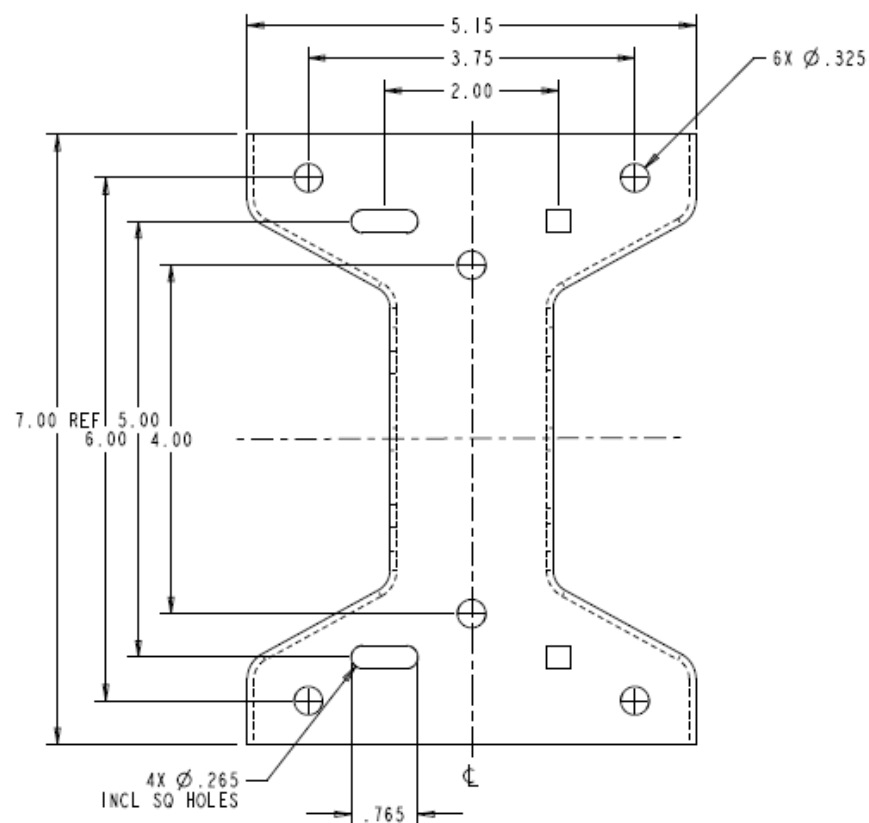

Figure 28: Base bracket hole pattern
3. The wall mounting pattern has four bolts in a 6" x 3 3/4" (15.24cm x 9.525cm) rectangle (not included). The holes are 0.325" diameter. See Figure 28.